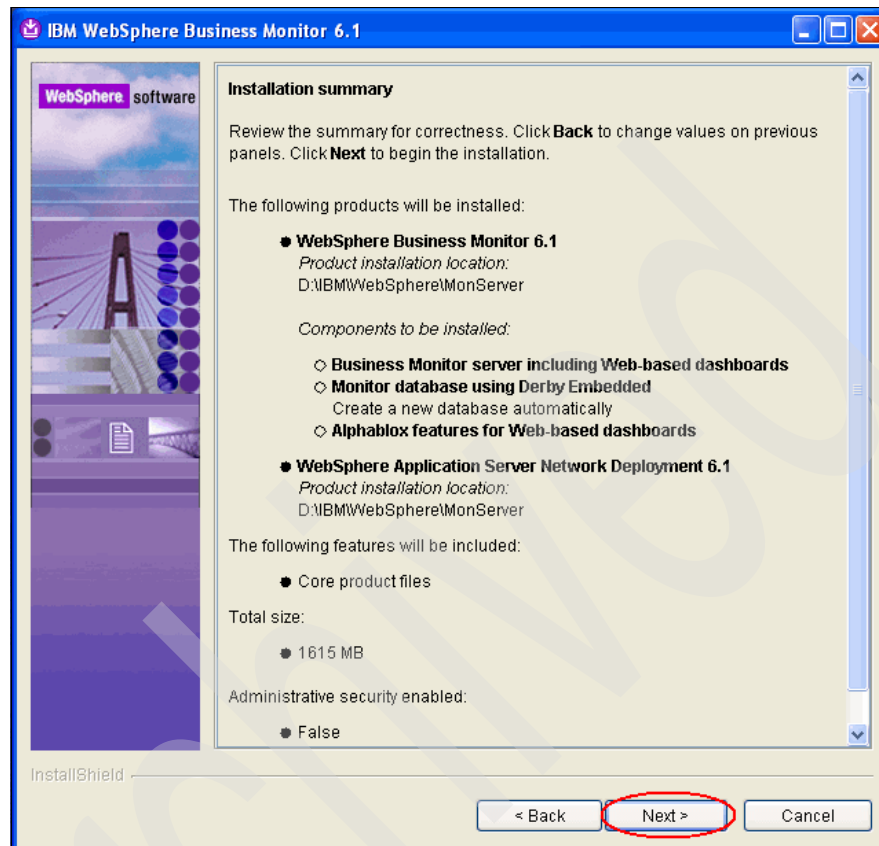

Figure 3-30 WebSphere Business Monitor installation: Installation summary
13. In the Installation summary panel (Figure 3-30), click **Next**.